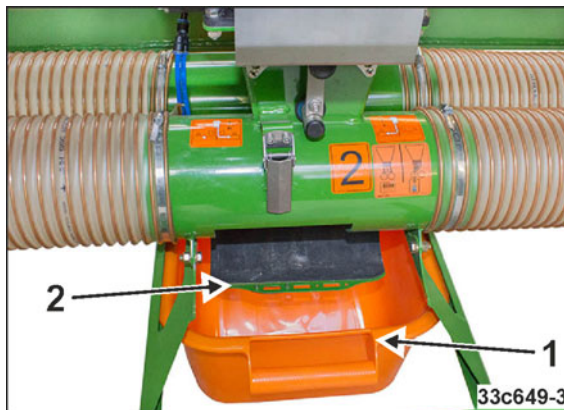

Fig. 149
4. Put a calibration trough (Fig. 149/1) in the bracket under each metering unit.
5. Release the tensioning hooks and open the folding of the left conveyor section (Fig. 149/2).